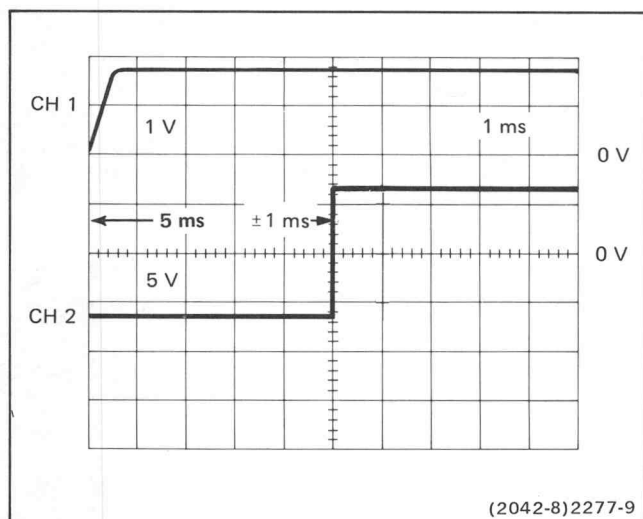

Figure 5-7. QRS timing.
c. **CHECK**—Interval to first positive-going edge at TP360 is 5 ms, ± 1 ms (see Fig. 5-7).